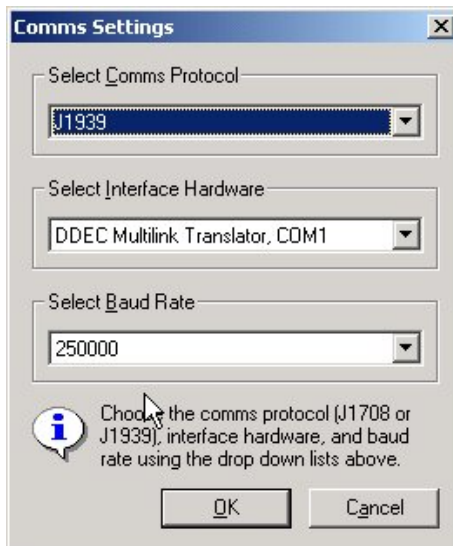

Figure 3
3. After this change is made the Comms Settings should match those displayed in (Figure 3).